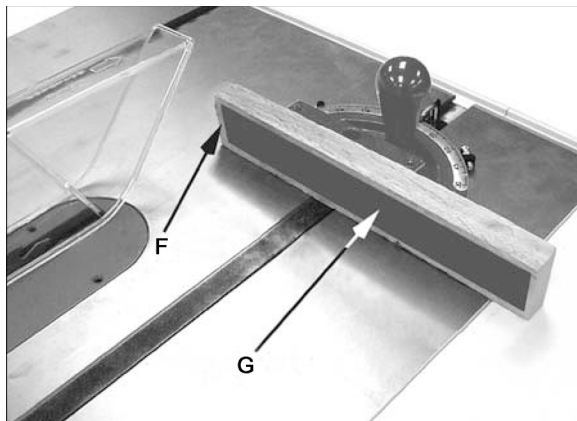

Figure 38
To augment the effectiveness of the miter gauge in crosscutting, some users mount an auxiliary wooden extension face (F, Figure 38) with a glued-on strip of sandpaper (G) to the miter gauge.